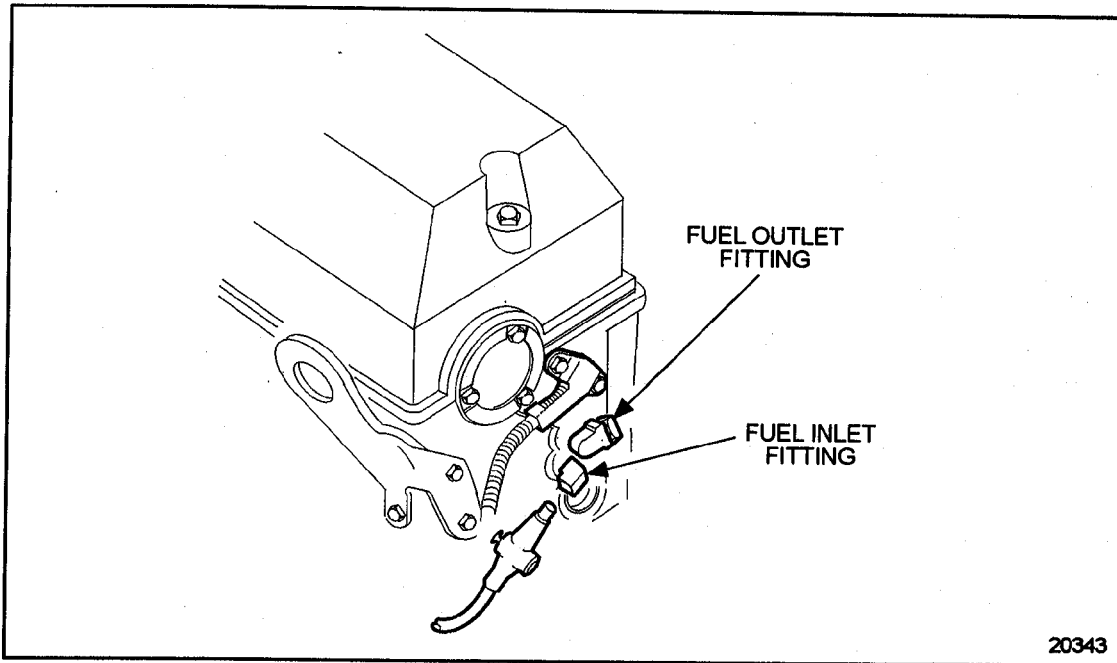

Figure 1-35 Removing Fuel from Cylinder Head Internal Passages
16. Disconnect the fuel inlet and outlet lines at the rear of the cylinder head. See Figure 1-35.